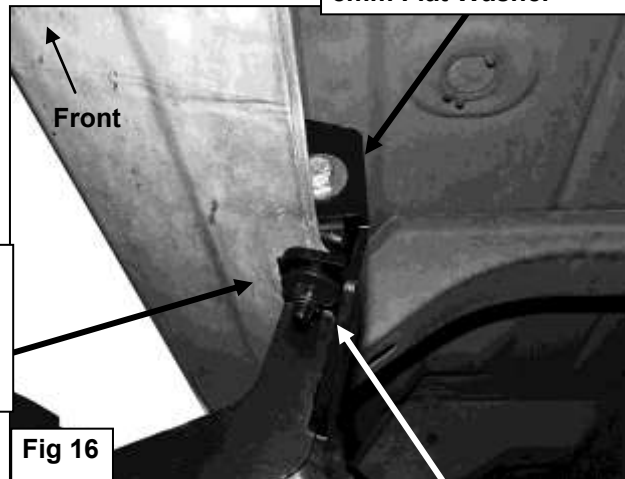

Fig 16
10. Line up the side tab on the Lower Bracket with the threaded hole in the side of the Upper Bracket. Attach the Lower Bracket to the Upper Bracket with (1) 8mm x 25mm Hex Bolt, (1) 8mm Lock Washer and (1) 8mm Flat Washer, (Figure 16). Leave loose at this time.